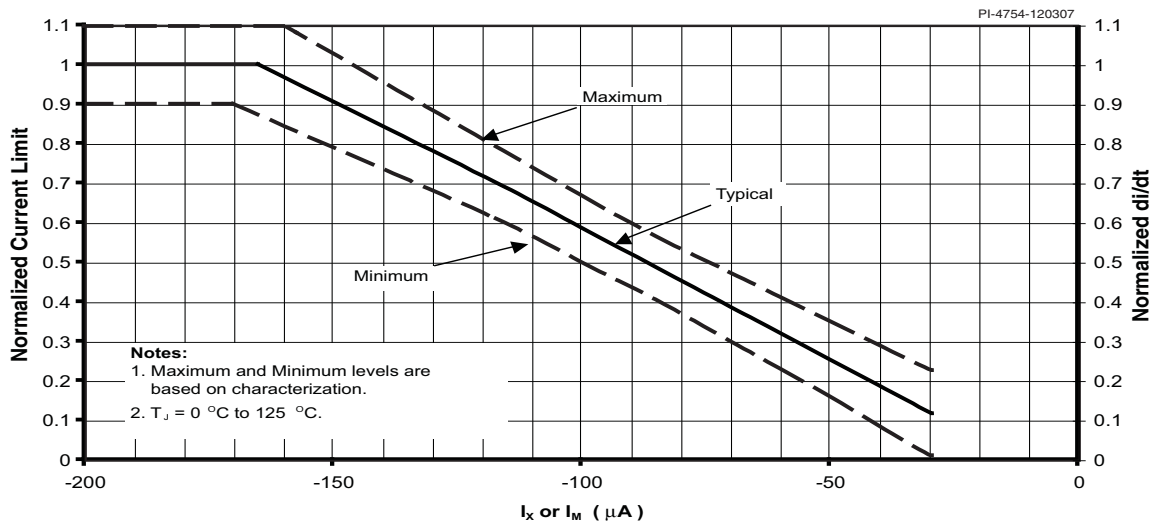

Figure 55a. Normalized Current Limit vs. X or M Pin Current.
- C. For externally adjusted current limit values, please refer to Figures 55a and 55b (Current Limit vs. External Current Limit Resistance) in the Typical Performance Characteristics section. The tolerance specified is only valid at full current limit.